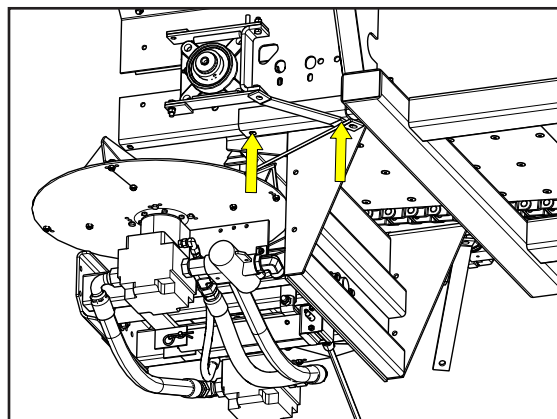

Figure 4
5. Figure 4 - If adjustments are necessary, loosen the four 1/2" carriage bolts and adjust assembly as necessary. Once corrected, tighten hardware to recommended torque. See "Standard Torques" for details.